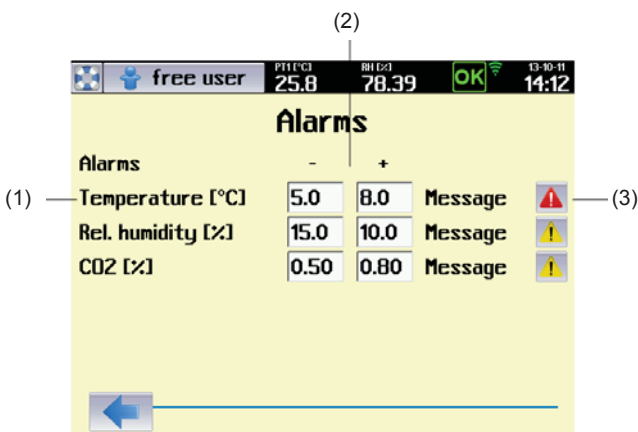

Fig. 58
- (1) Required exposition conditions.
- (2) Light exposition for individual racks.
Alarms warn the user that one of the regulated variables has moved outside the pre-set limits. The temperature, relative humidity and CO₂ concentration can be monitored (CO₂ is an optional device accessory, see 6.14). How the device acts when the alarm is triggered depends on the settings for the button (3), fig 58, and is the same as when a warning or error occurs (see 8.3.3).